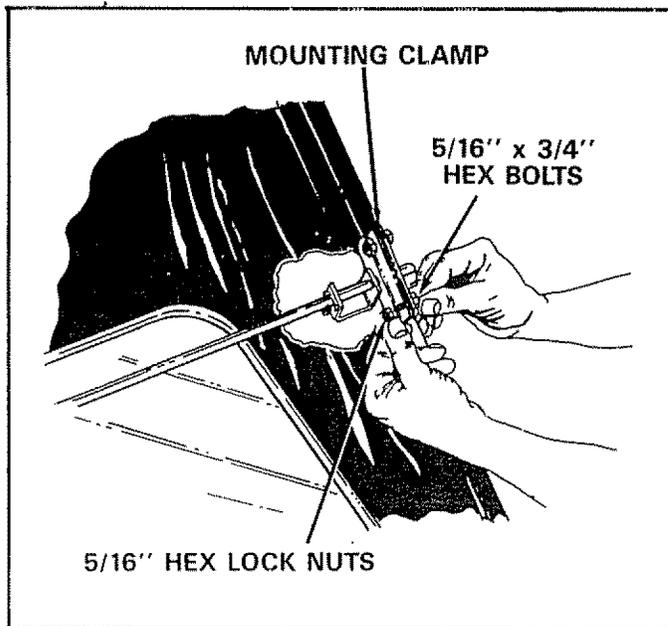

FIGURE 22
14. Assemble the two remaining hopper mounting clamps to the outside of bag frame with 5/16" x 3/4" hex bolts and 5/16" hex lock nuts. See figure 22. Tighten securely.